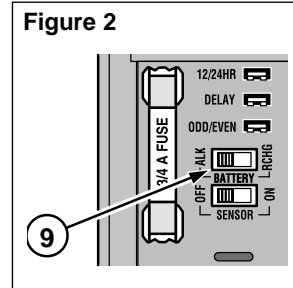

Figure 2
3. Locate the battery charger switch (9) as indicated in **Figure 2**. If an Alkaline battery is installed, the switch must be set to the left position to turn the charging circuit off. If a rechargeable Ni-MH battery is used, the switch must be set to the right position to turn the charging circuit on.